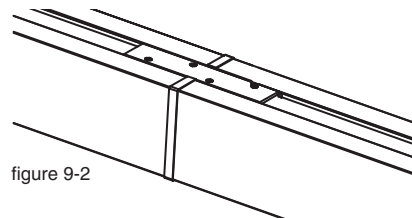

figure 9-2
- l. Slide the connecting bracket into the first fixture, leaving half of it sticking out, and then connect your second fixture by sliding it into the joiner piece and connecting bracket. **Fig 9-2.**